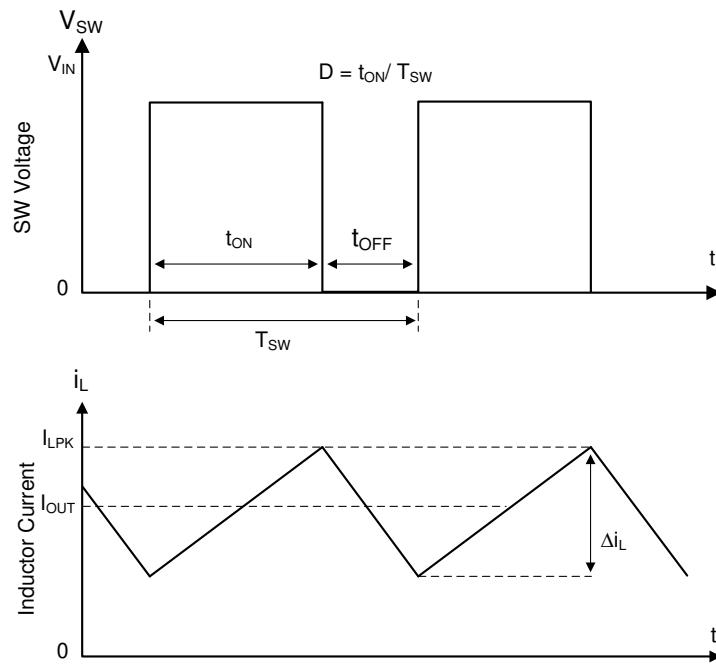

Figure 8-1. SW Node and Inductor Current Waveforms in Continuous Conduction Mode (CCM)
The following operating description of the LMR514x0 refers to Functional Block Diagram and to the waveforms in Figure 8-1. The LMR514x0 is a step-down synchronous buck converter with integrated high-side (HS) and low-side (LS) switches (synchronous rectifier). The LMR514x0 supplies a regulated output voltage by turning on the high-side and low-side NMOS switches with controlled duty cycle. During high-side switch ON time, the SW pin voltage swings up to approximately V_{IN} , and the inductor current, i_L , increases with linear slope $(V_{IN} - V_{OUT}) / L$. When the high-side switch is turned off by the control logic, the low-side switch is turned on after an anti-shoot-through dead time. Inductor current discharges through the low-side switch with a slope of $-V_{OUT} / L$. The control parameter of a buck converter is defined as Duty Cycle $D = t_{ON} / T_{SW}$, where t_{ON} is the high-side switch ON time and T_{SW} is the switching period. The converter control loop maintains a constant output voltage by adjusting the duty cycle D. In an ideal buck converter, where losses are ignored, D is proportional to the output voltage and inversely proportional to the input voltage: $D = V_{OUT} / V_{IN}$.